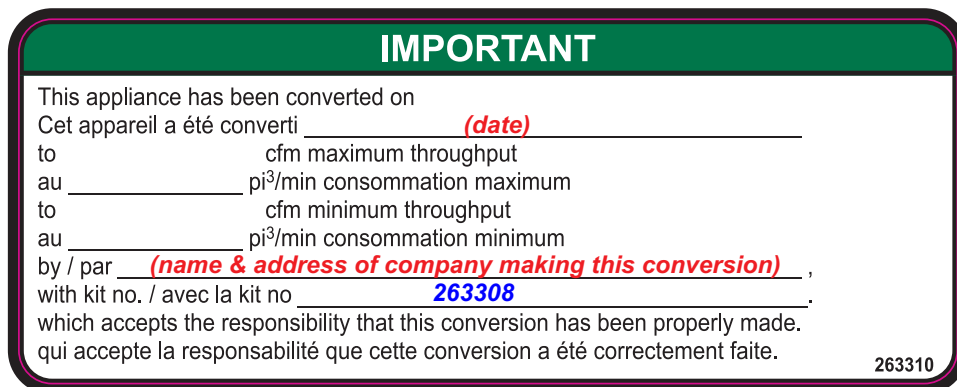

Figure 5. Field Conversion Label
3. Install field conversion label (see **Figure 5**):